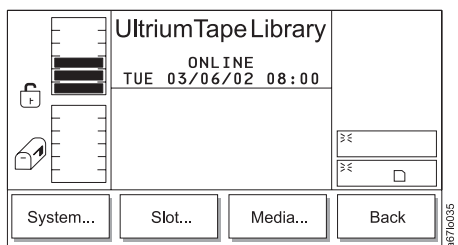

Figure 4-27. Library Submenu
2. Press the button below the **Library** softkey. The Library Submenu displays (see Figure 4-27).